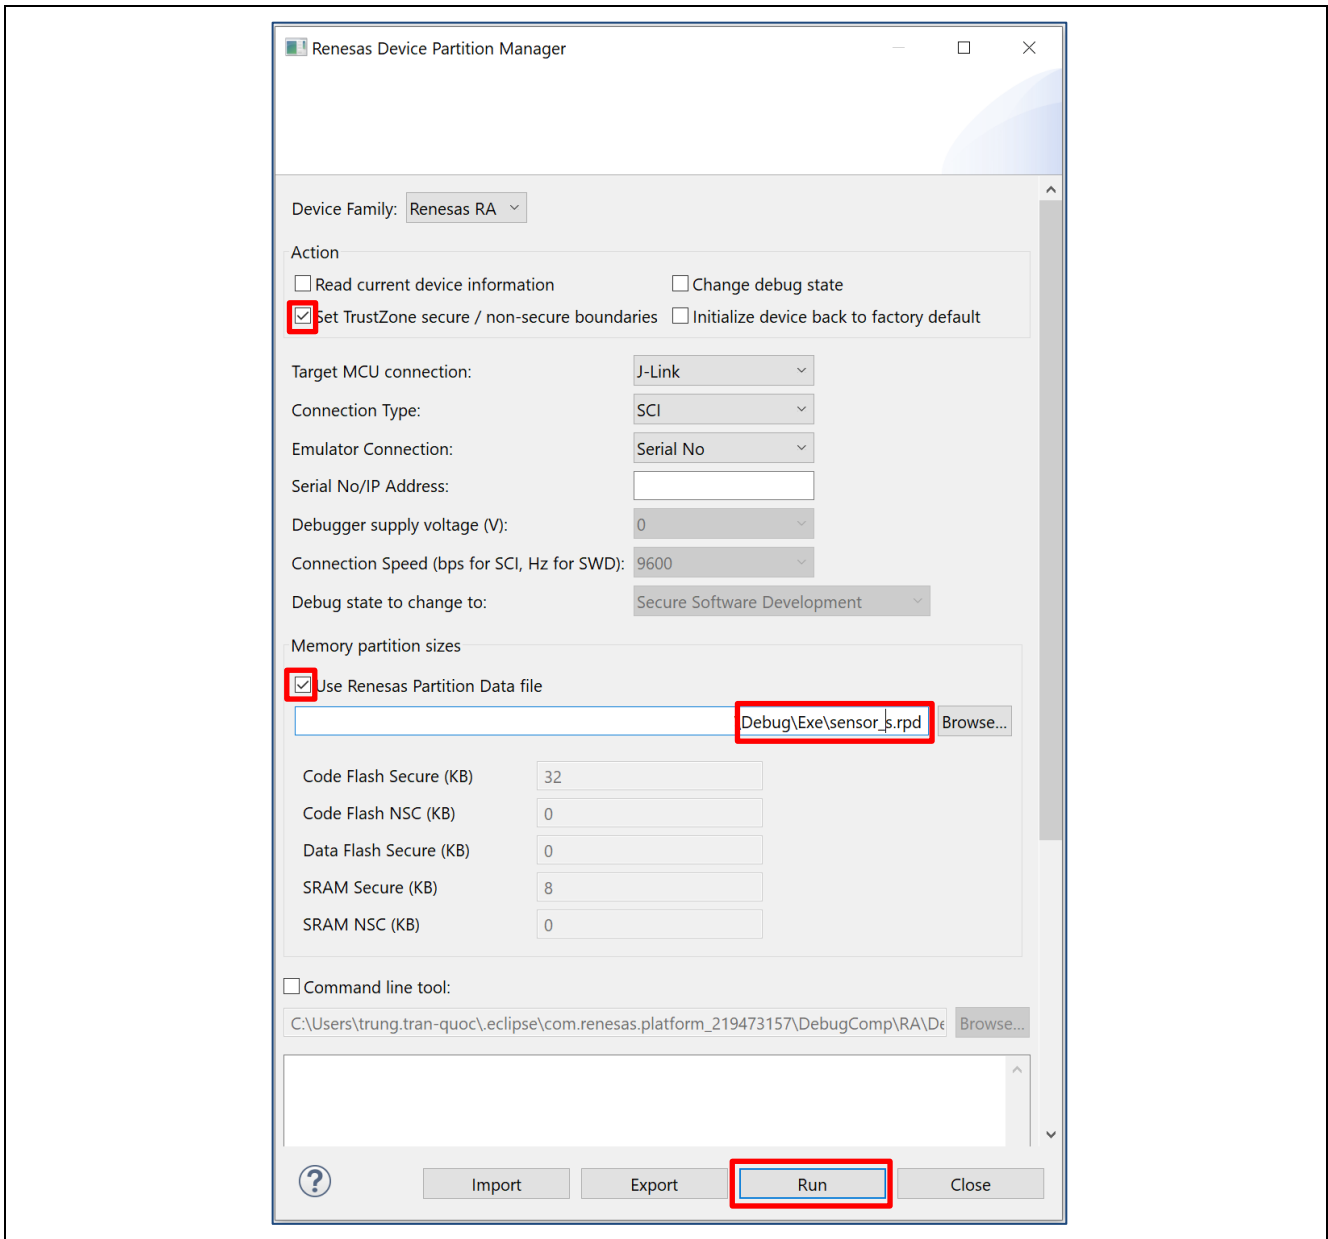

Figure 81. Configure the RDPM
Once the RDPM is launched, configure the settings as shown in Figure 81. Use **Browse** to select the .rpd file generated from the secure project (`sensor_s.rpd`) as the input for the **User Renesas Partition Data file** entry.
9. Set the TrustZone boundary using the sensor_s.rpd file generated during the compilation process in a similar way as shown in Figure 81.